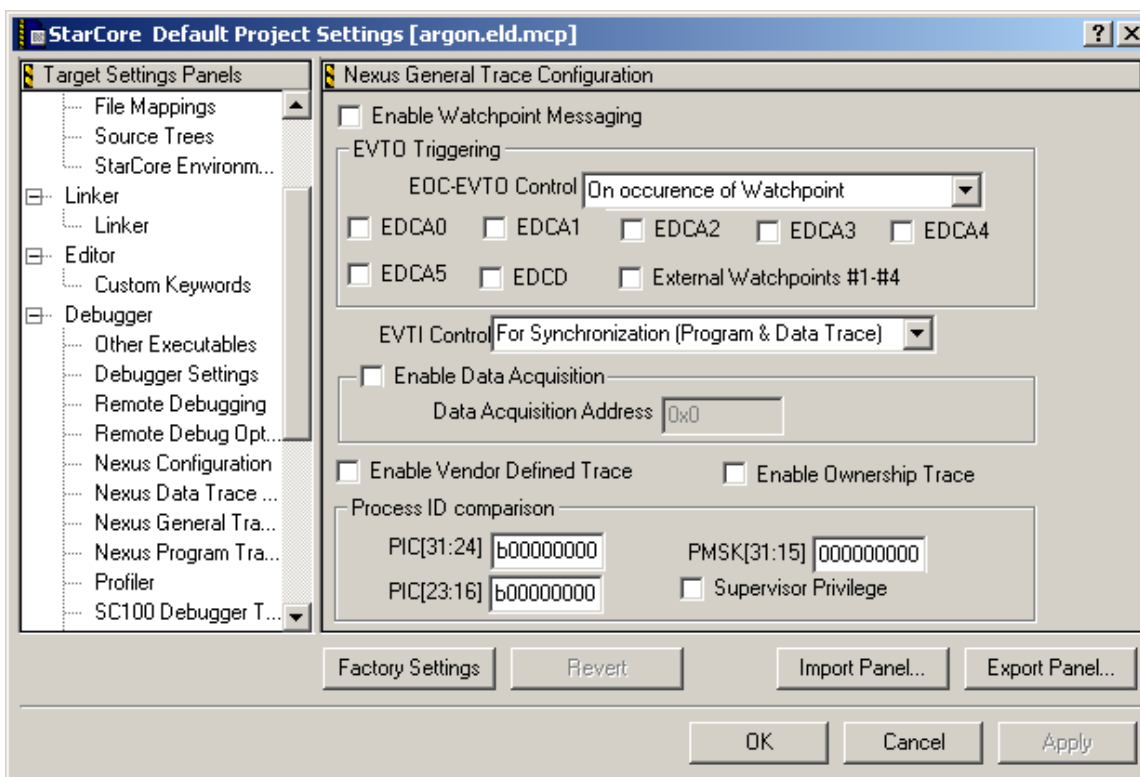

Figure 18: Nexus General Configuration for Exception capture
- d. Nexus General Trace Configuration: Figure 18: Nexus General Configuration for Exception capture shows the settings for the General Trace configuration. These settings are similar to the Data Trace settings in that they are set to not generate additional trace messages.
- d. General Trace setup is also not used for this example. Figure 18: Nexus General Configuration for Exception capture shows the setup for General Trace.
- d. Nexus General Trace Configuration: Figure 18: Nexus General Configuration for Exception capture shows the settings for the General Trace configuration. These Nexus options are not used for this example.